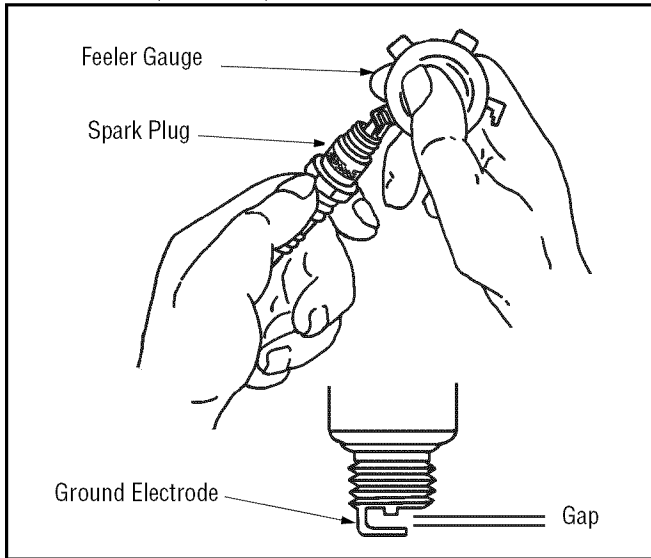

Figure 20
- Check the gap using a feeler gauge and adjust, if necessary, by carefully bending the ground electrode. See Figure 20. Set the spark plug gap to 0.030 in (0.76 mm).